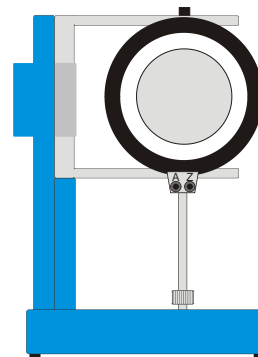

Fig. 2 Setting up the coil
- Place the tube in the stand at 90° to its normal alignment (refer to Fig. 2).